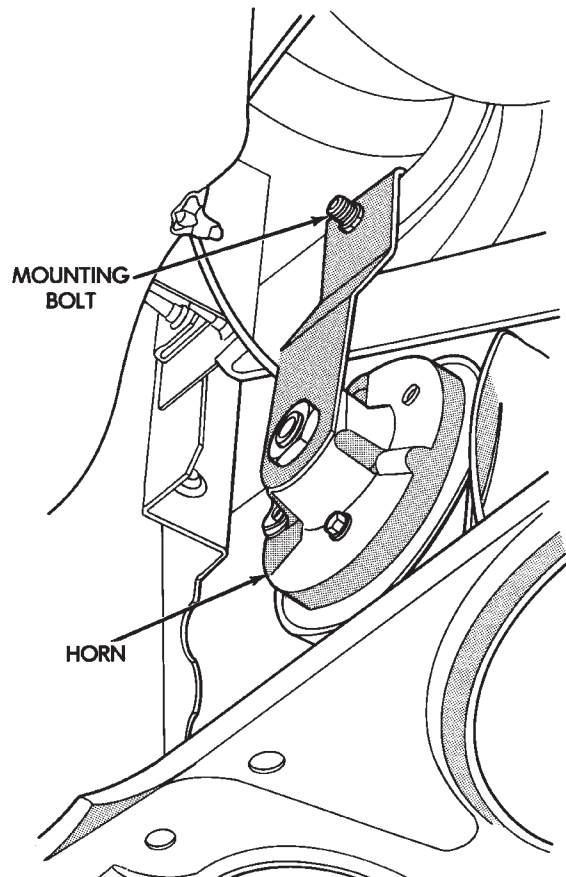

Fig. 1 Drivers Side Horn
- (1) Raise and support the vehicle.
- (2) Remove the splash shield.
- (3) Remove horn mounting bolt and horn mounted on the drivers side (Fig. 1).
- (4) Remove wire from horn.
- (5) To install horn, reverse the removal procedures.